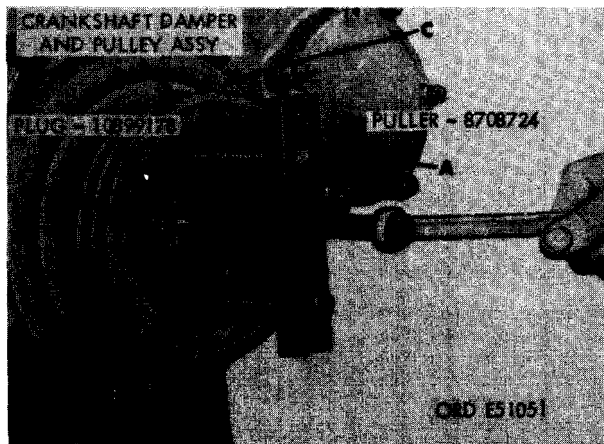

FIGURE 203. REMOVING CRANKSHAFT DAMPER AND PULLEY ASSEMBLY USING MECHANICAL PULLER -8708724 AND PLUG -1089178.
- (6) Figure 203. (A) Install mechanical puller -8708724 on hub of pulley as shown. (B) Install small end of puller plug-